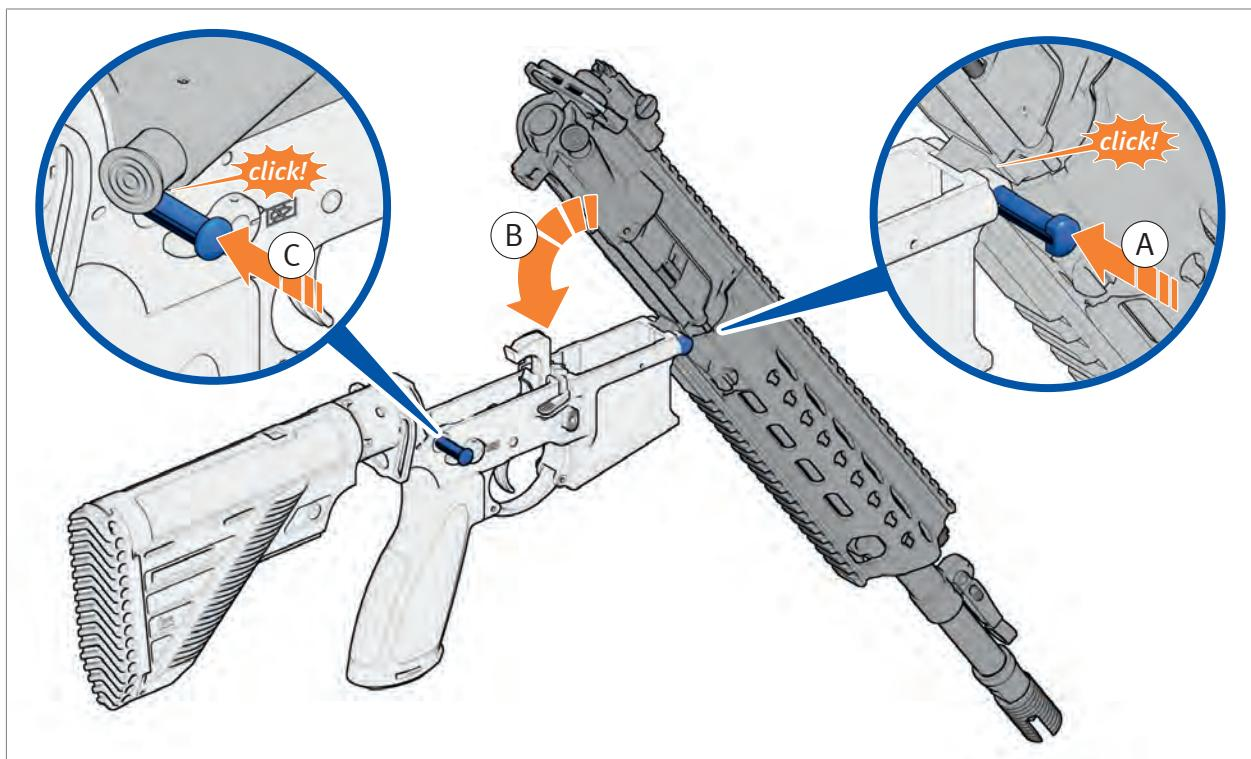

Fig. 123: Insert lower receiver
2. Insert lower receiver into front bore for locking pin with the front locking pin in upper receiver at an angle of about 45° (Fig. 123).
3. Press front locking pin in all the way to the left (Fig. 123).
4. Fold upper receiver downwards onto lower receiver up to the end stop (Fig. 123).